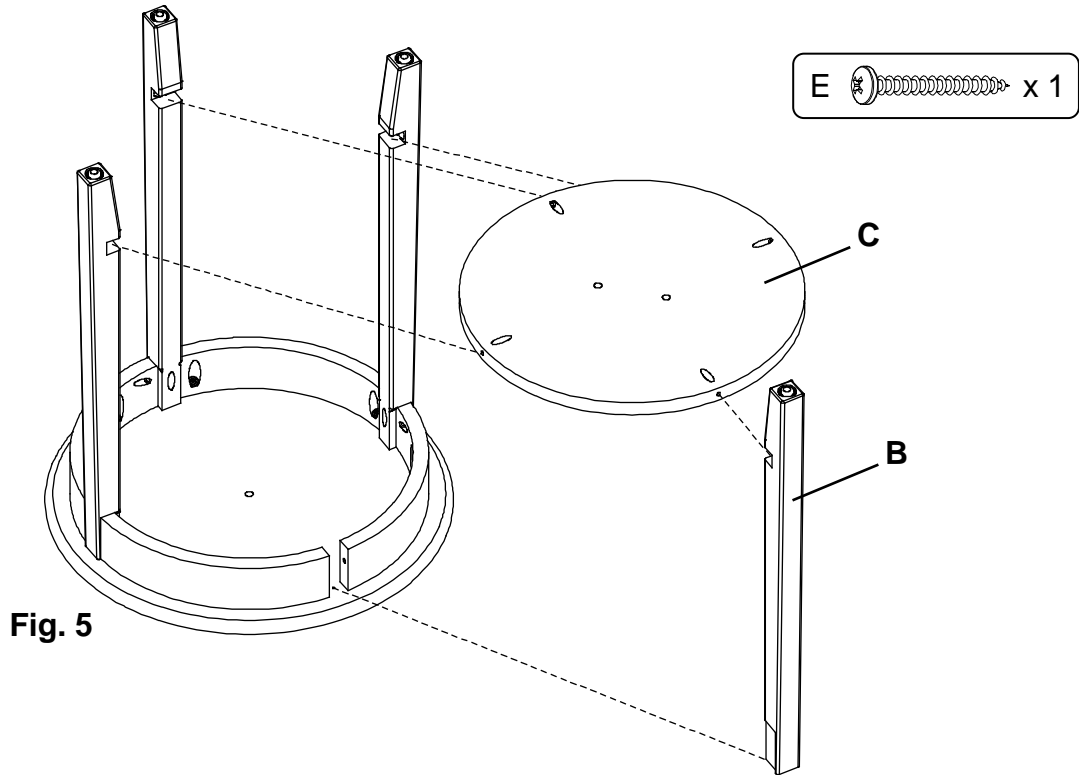

Fig. 5
5. To attach the Shelf (C) align three of the pocket screw holes with the notches of the legs and slide the Shelf (C) into the notches. Be sure the grain of the Shelf (C) is in line with the grain of the top. Place the final Leg (B) in the remaining corner, using the pocket hole as a guide, secure the Leg (B) with one #8 x 1-1/4" Pan Head Screw (E). See Figure 5.